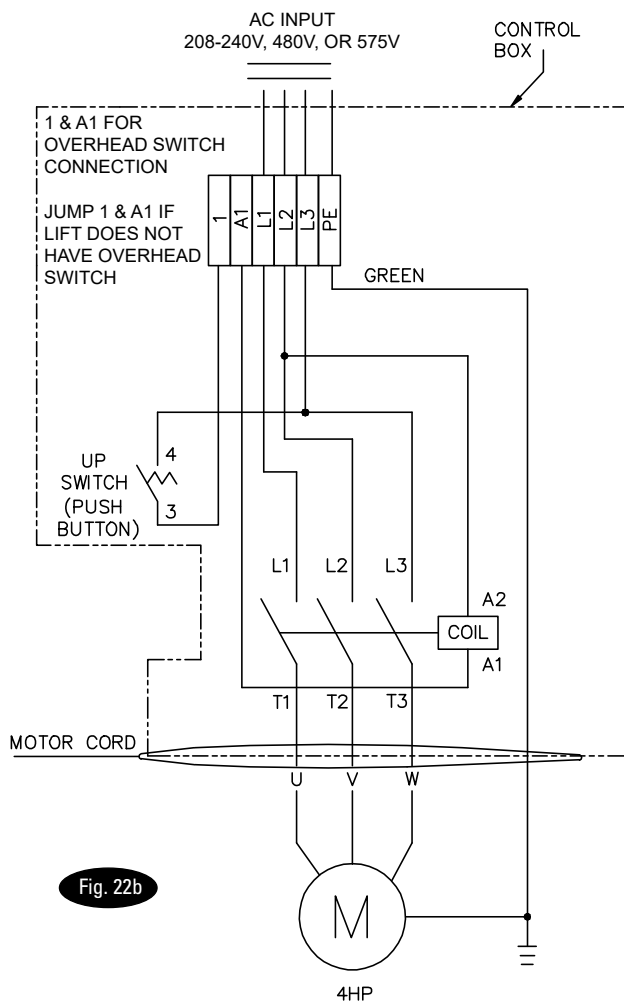

Fig. 22b
16. Overhead switch: Check overhead switch assembly to assure that switch bar is depressing switch plunger sufficiently to actuate the switch. The overhead switch is wired normally open, see Fig. 21, Fig. 22, and Fig. 22b. Lift will not operate until weight of switch bar is depressing switch plunger. Verify that Power Unit stops working when switch bar is raised, and re-starts when the bar is released.